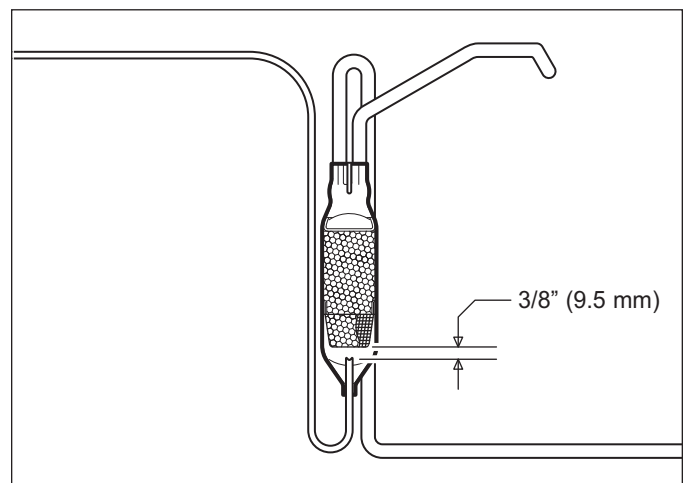

Figure 7-326. Capillary Tube Insertion Note
- When installing replacement filter-drier, insert capillary tube until it touches screen inside drier, then pull capillary tube away from screen approximately 3/8" before brazing. (See Figure 7-326).